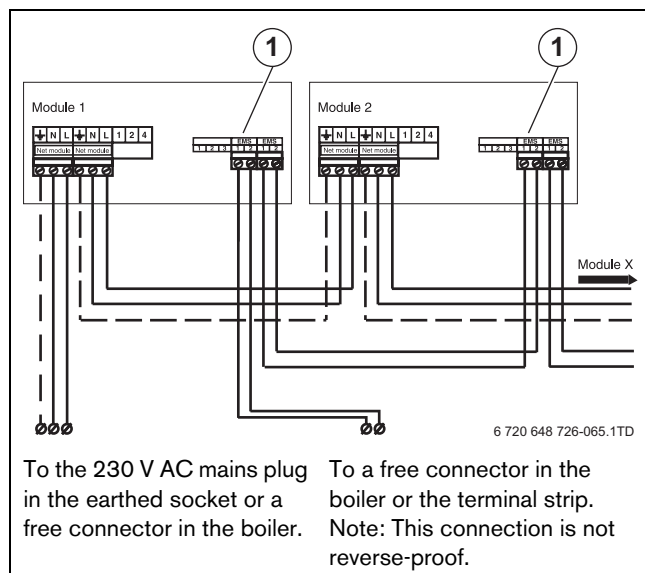

Fig. 65 Connecting several modules
- If more modules are used, the EMS bus connection for the second module may be branched off from the first module using the cable enclosed with the module (→ fig. 65 and 66).
- Connect the wire from terminal 1 to terminal 1 and from terminal 2 to terminal 2 (→ fig. 65 and 66).
- Connect the other end of the EMS bus connection cable to the first module (→ fig. 65).
The module may have the letters RC or EMS above the connection (→ fig. 65, [1]).
- Connect the EMS bus connection lead of the first module to the next module (→ fig. 65).
- Connect the 230 V AC mains cable to the module (→ fig. 65). If more modules are used, the 230 V AC supply to the next module can be branched off from the previous module using the connector enclosed with the module and a 3-core 0.75-mm² current cable with an earthing wire.
- Connect the 230 V AC supply cable of the previous module to the next module (→ fig. 65).